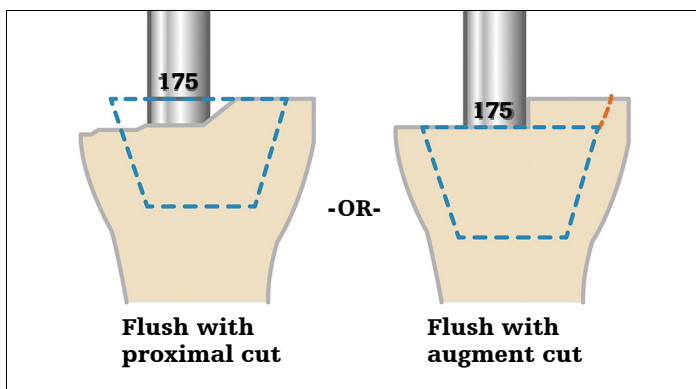

Figure 56
► **Note:** If Tibial Augments are to be used, ream until the 175mm marking is flush with the augment cut. Use the bottom of the 175mm line marking as the depth reference. See **Figure 56**.